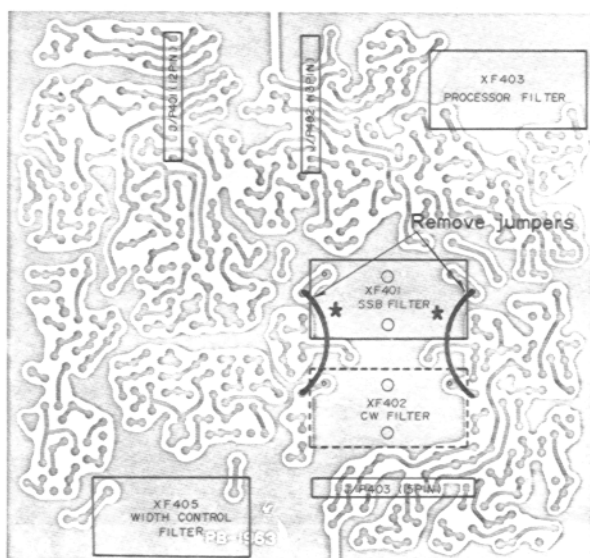
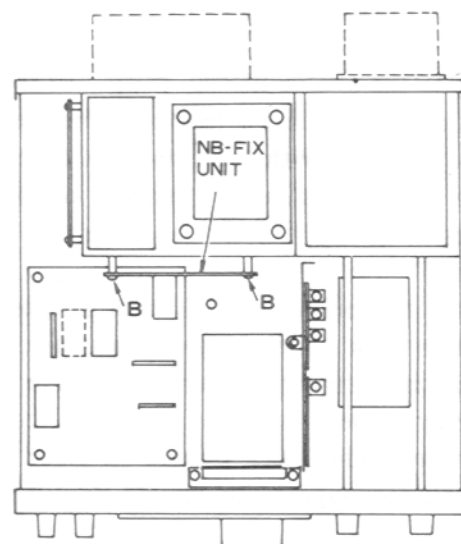

Figure 3
Figure 2
- (2) Refer to Fig. 2, and locate the NB-FIX circuit board. Remove its mounting screws, because this board is obstructing the removal of the IF unit.
- (3) Remove the 12-pin, 13-pin, and 15-pin plugs from their sockets on the IF unit. Remove the IF unit mounting screws, and remove the IF unit from the transceiver case.
- (4) Install the optional CW filter as shown in the foil side view of the IF unit (Fig. 3). Make the fastening nuts snug, and solder the pins of the filter to the circuit board, and remove the 2 jumper wires shown in Figure 3.
- (5) Re-install the IF unit, being careful to connect the 12-pin, 13-pin, and 15-pin plugs in the correct sockets. Refer to Fig. 3 to be sure. Re-install the NB-FIX unit, and replace the top cover of the transceiver.
- (6) When the optional CW filter is installed, the CW-N position of the mode switch will activate this filter. In the CW-W position, the SSB 2.4 kHz filter will be in use. The WIDTH control is usable in all modes.